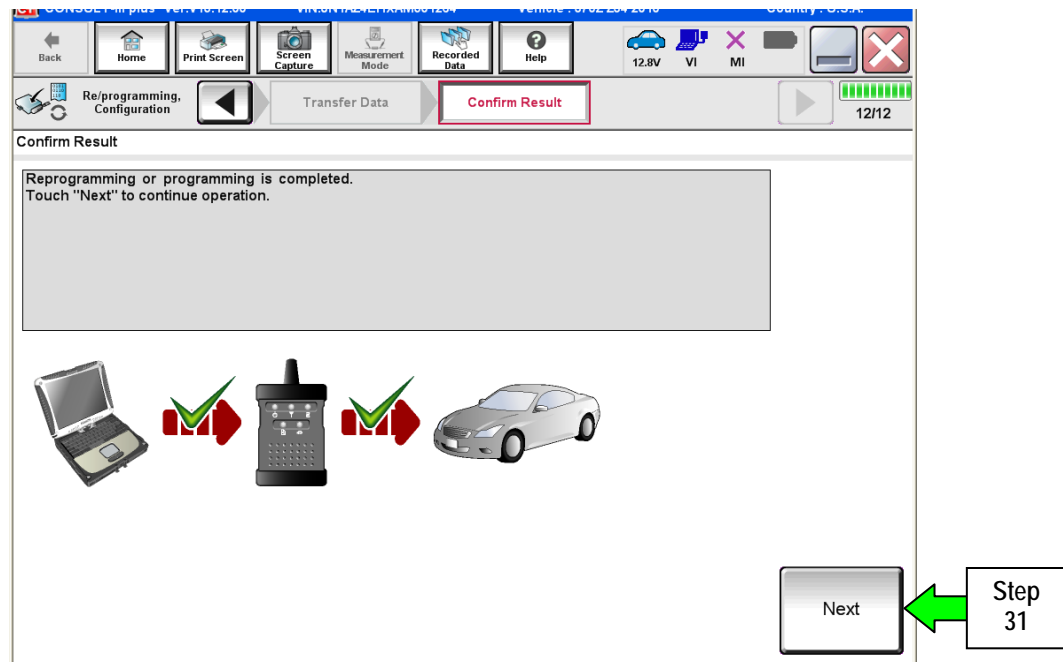

Figure 15
29. When the screen in Figure 15 displays, the reprogramming is complete.
**NOTE:** If the screen in Figure 15 does not display (reprogramming does not complete), refer to the information on the next page.